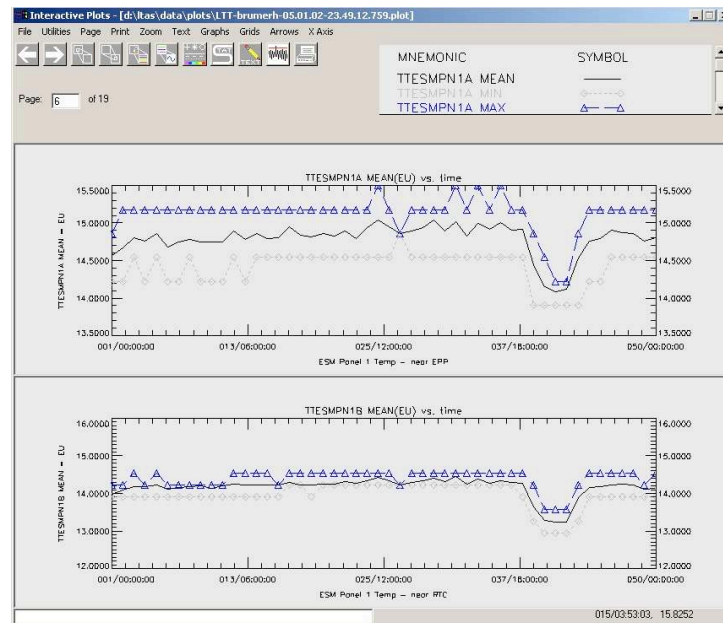

Figure 58: Plot Daily Lifetime Trend data
- Click “Plots” to extract the data to plot (see Figure 58), click “ASCII” to extract the data to a text file.